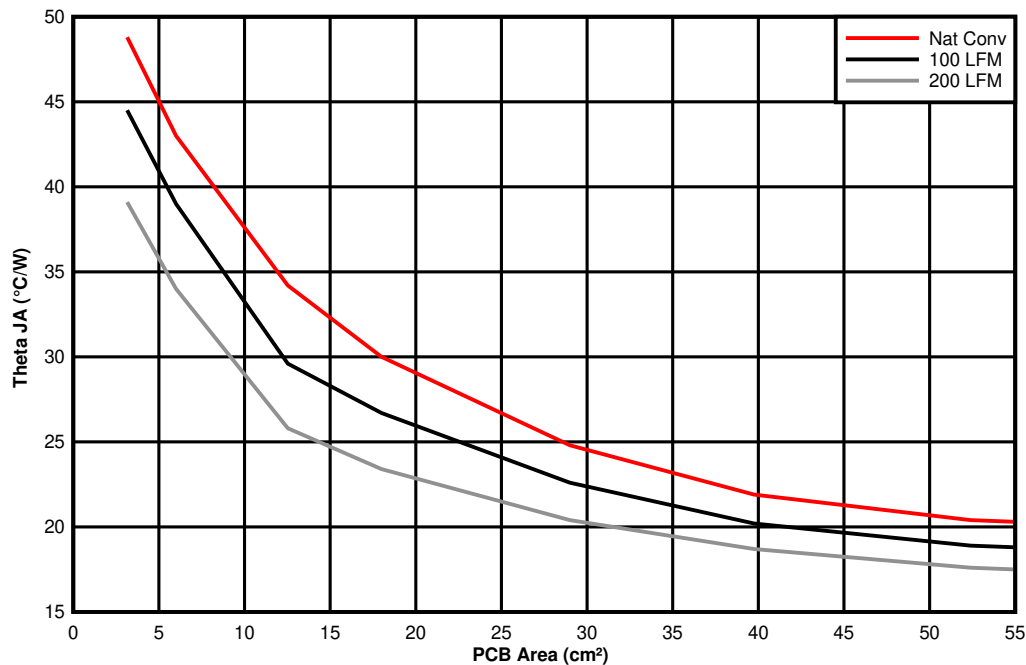

图 11-5.  $\theta_{JA}$  vs PCB Area
The amount of PCB copper as well as airflow effects the thermal performance of the device. Figure 11-5 shows the effects of copper area and airflow on the junction-to-ambient thermal resistance ( $R_{\theta JA}$ ) of the TPSM5601R5. The junction-to-ambient thermal resistance versus PCB area is plotted for a 4-layer PCB.
3. Reference Figure 11-5 to determine the minimum required PCB area for the application conditions.